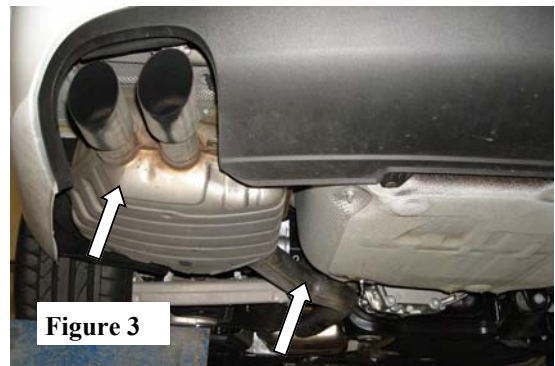

Figure 3
4. Support front pipe section with stand. Carefully remove rear muffler section from muffler hangars and remove from vehicle. Keep factory clamp. (See Fig.3)